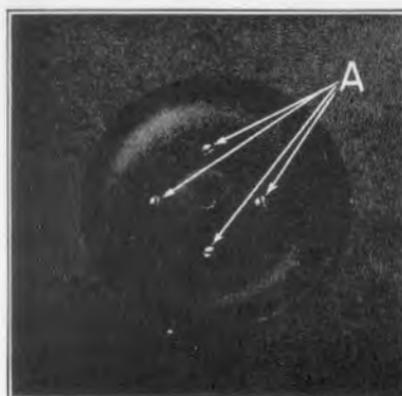
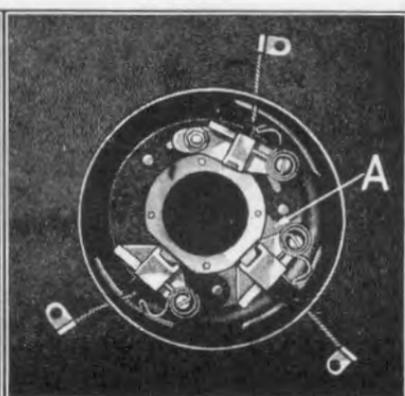

Fig. 485
Fig. 486
- (c) Loosen the four brush ring screws (See "A" Fig. 485) approximately half a turn which will allow the brush holder assembly (See "A" Fig. 486) to be moved freely in either direction; care should be taken not to run out the screws more than is actually necessary to allow the brush holder assembly to move freely. (If the screws are run out too far, the clamp ring will fall off inside the generator, and to replace it would necessitate removal of the generator).